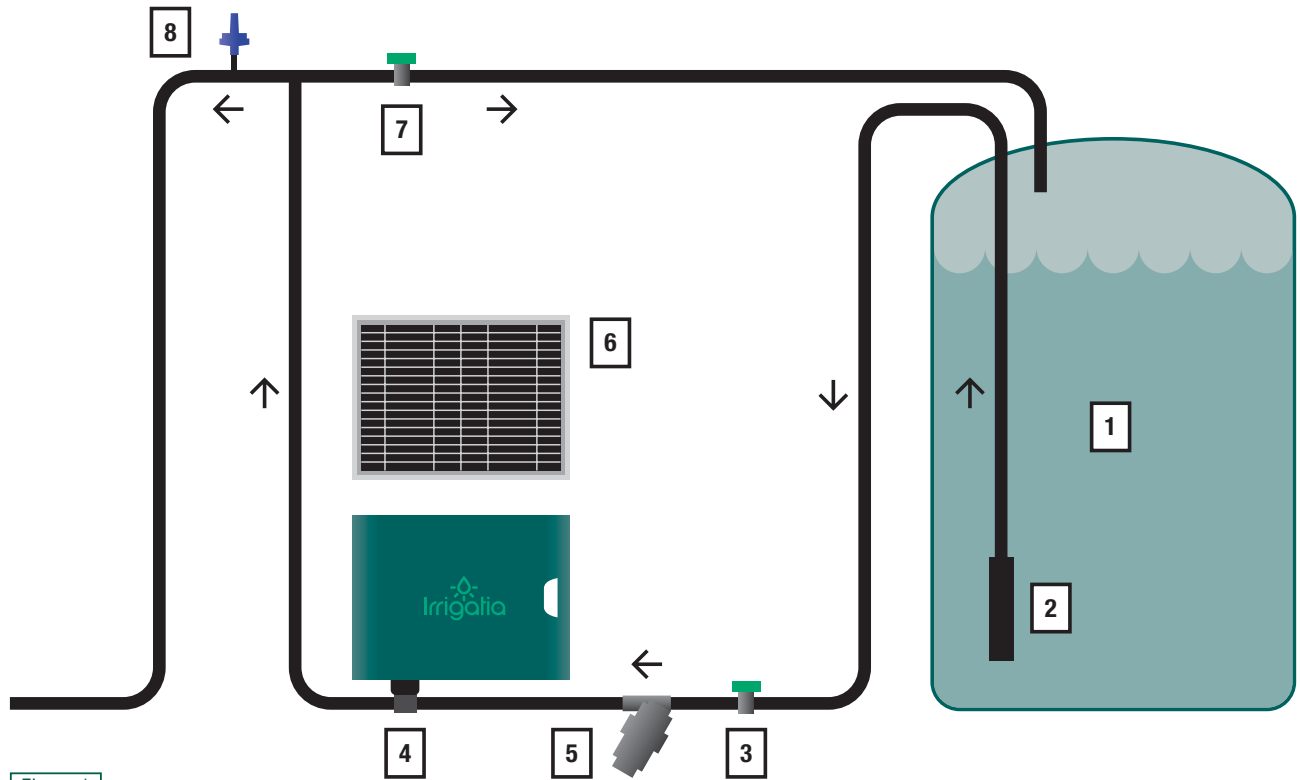
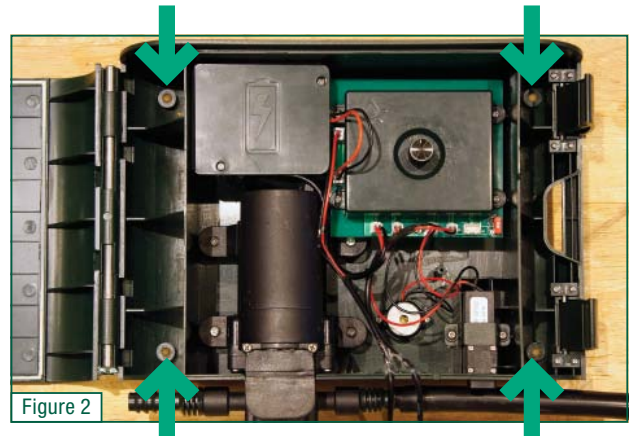

Figure 1
Figure 2
To protect the drippers from debris, there is a fine mesh filter. This can be fitted on either side of the pump, (fig 2) but a valve must be fitted between it and the tank to turn off the water flow while cleaning. (Valve 3 in fig 1).
The anti-siphon is needed to stop the water flow when the pump has stopped if the first emitter is lower than top of the water source. It should be fitted in the delivery tube to the emitters, (it is number 8 in fig1). It can be fitted by making a hole with the punch provided and pushing the blue part of the anti-siphon directly into the tube, threaded end first. Anti-siphon device must be fitted higher than the water source.
- As the bypass valve (Valve 7 in fig 1) is wide open most of the water pumped should return to the tank. Wait until all the air has cleared from the system before VERY SLOWLY starting to close the bypass valve. This will push more water towards the drippers. The valve should be gradually closed until the drippers are dripping about once per second, or the microporous hose is full of water but soft, like a soft bicycle tyre. If you are using micro-porous tube, check the adjustment every few days after installation as when it is wetted up it will emit less water than when newly installed.